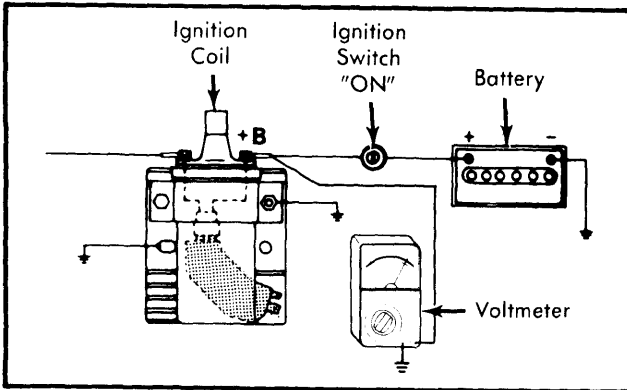

Fig. 3 Voltmeter Hookup for System Input Voltage Check
1) With the ignition key in the "MAR" (Run) position and engine shut off, attach positive voltmeter lead to ignition coil positive (+B) terminal. Attach negative lead to ground. Voltage should be 12 volts. See Fig. 3. If not, check battery, ignition switch, wires and connectors.